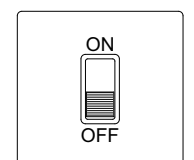

Figure 32
12. Make sure the installation is complete before turning the power back on. (see Fig. 32)